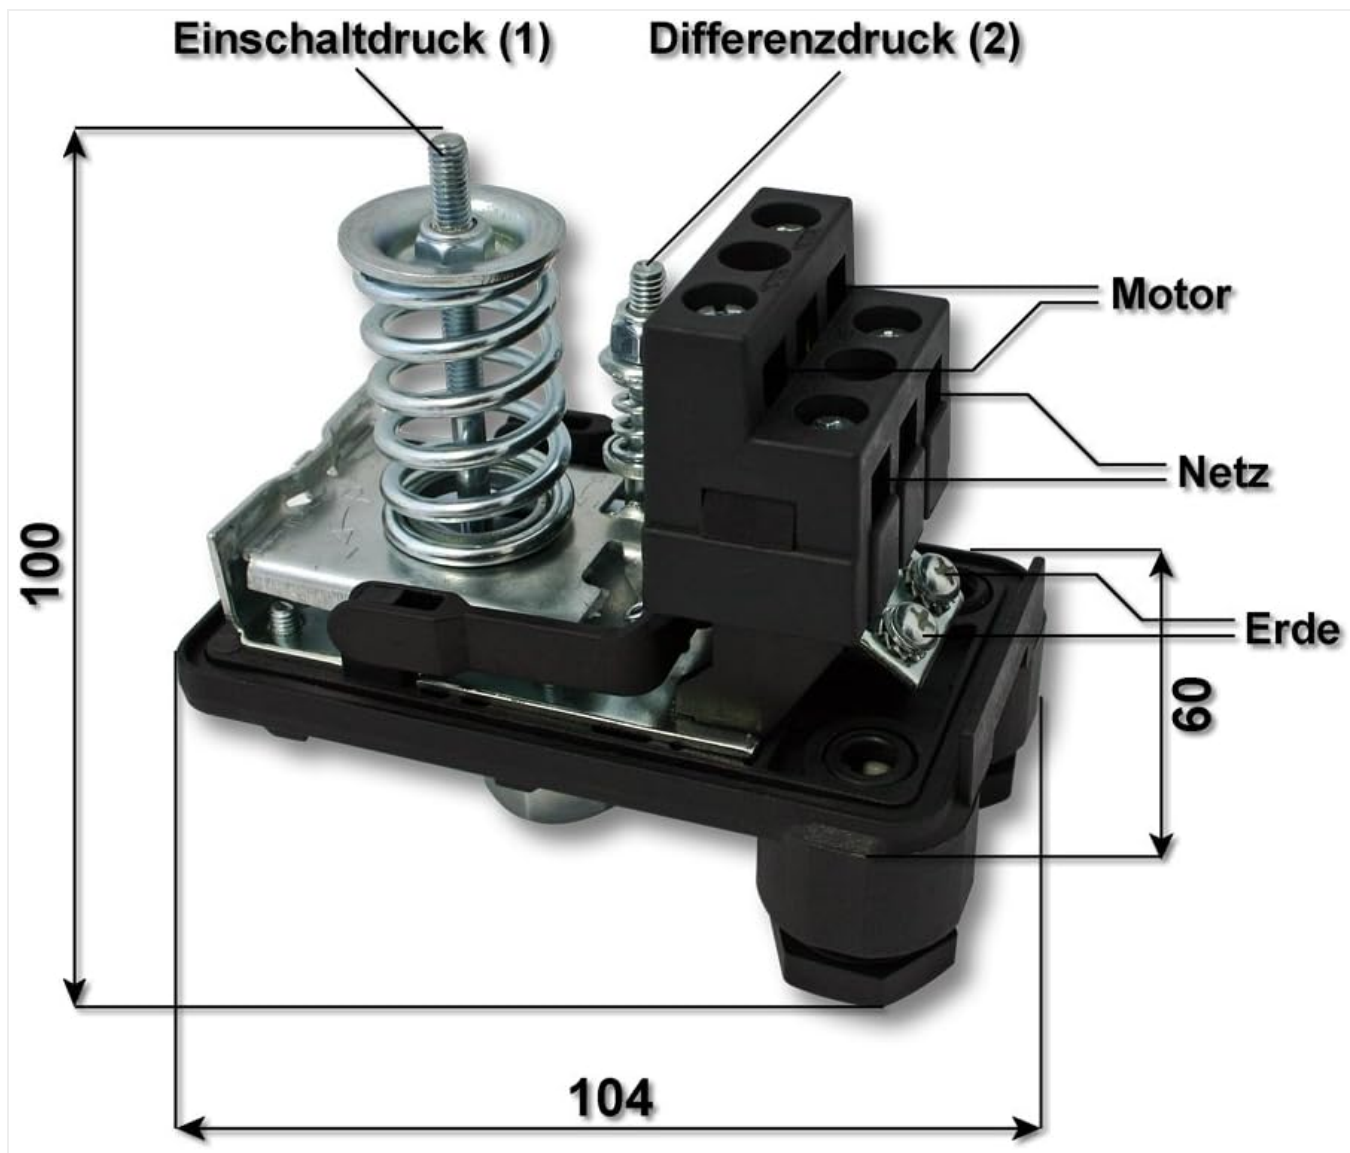

Figure 4: Internal components and connection points. (1) Cut-in pressure adjustment, (2) Differential pressure adjustment.
- The pressure switch has two adjustment points (refer to Figure 4):
- **Cut-in Pressure (1):** This is the pressure at which the pump turns on. Adjust this using the main spring screw (1).
- **Differential Pressure (2):** This is the difference between the cut-out and cut-in pressure. Adjust this using the smaller screw (2).
- a. Loosen the differential pressure nut (2).
- b. Adjust the cut-in pressure (1) to your desired value. Turning clockwise increases pressure.
- c. Tighten the differential pressure nut (2) until the desired cut-out pressure is reached. The cut-out pressure will be the cut-in pressure plus the differential pressure.